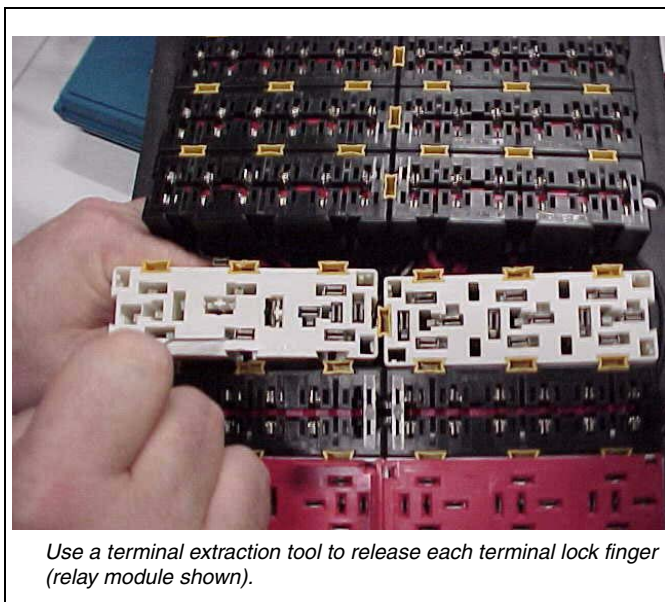

Figure 15-22
- Using a terminal extraction tool, release each terminal wire lock finger. See Figure 15-22 and Figure 15-23.